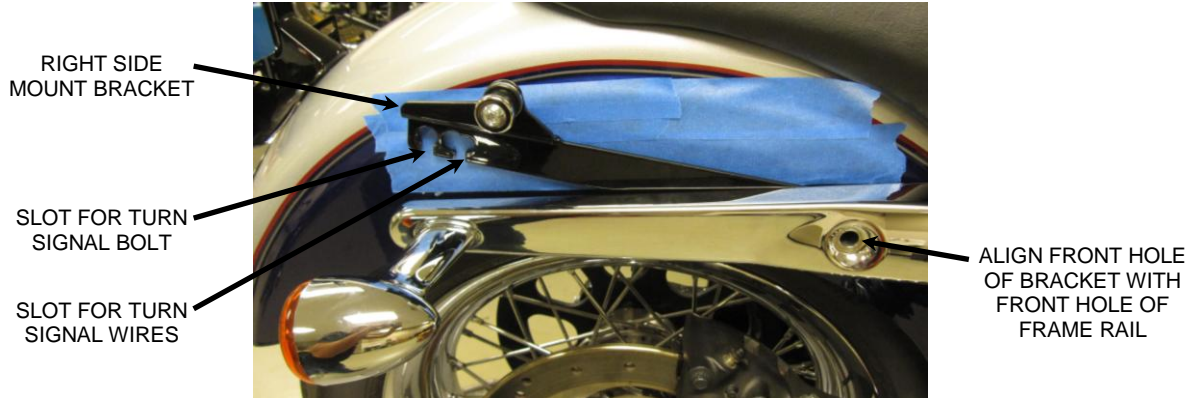

FIGURE 2
5. Pull the front of the inner nut plate away from the inside of the fender to allow clearance to insert the front of the mount bracket. The boss on the front of the nut plate will insert through the large hole on the front of the mount bracket. See **FIGURE 2**.
6. Install the right mounting bracket between the fender rail and fender (part # facing inward). The boss on the front of the nut plate will insert through the large hole on the front of the mount bracket. The rear of the mount bracket is slotted to slide over the rear turn signal bolt and over the turn signal wiring. See **FIGURE 2**.
7. Align the front boss on the nut plate with the front hole of the mounting bracket and push the nut plate outward to seat it against the inner fender and into the frame rail. See **FIGURE 2**.